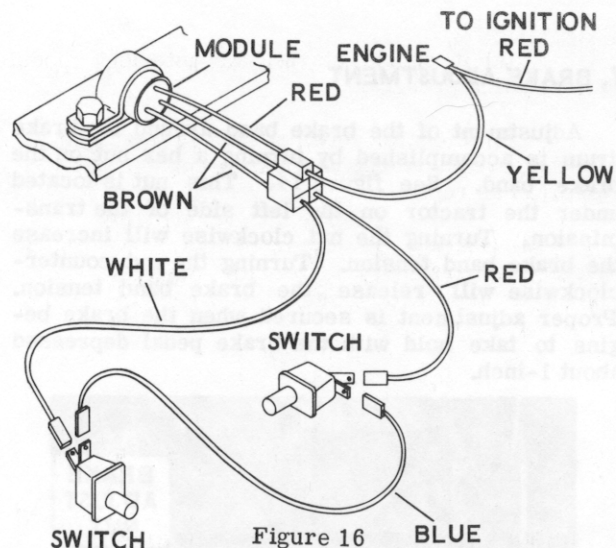
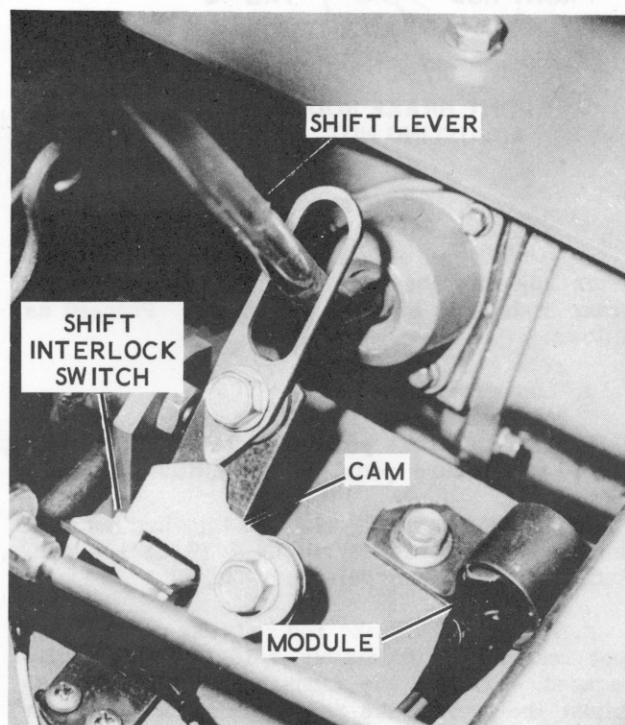

Figure 16
Figure 17
a. General. The basic interlock system is illustrated in Figure 16. It consists of two switches and a module. Switches are located at the speed shift lever and on the PTO lever. The module is located under the access panel in front of the seat. See Figure 17. In event of trouble with the circuit, follow the instructions in the paragraph below.